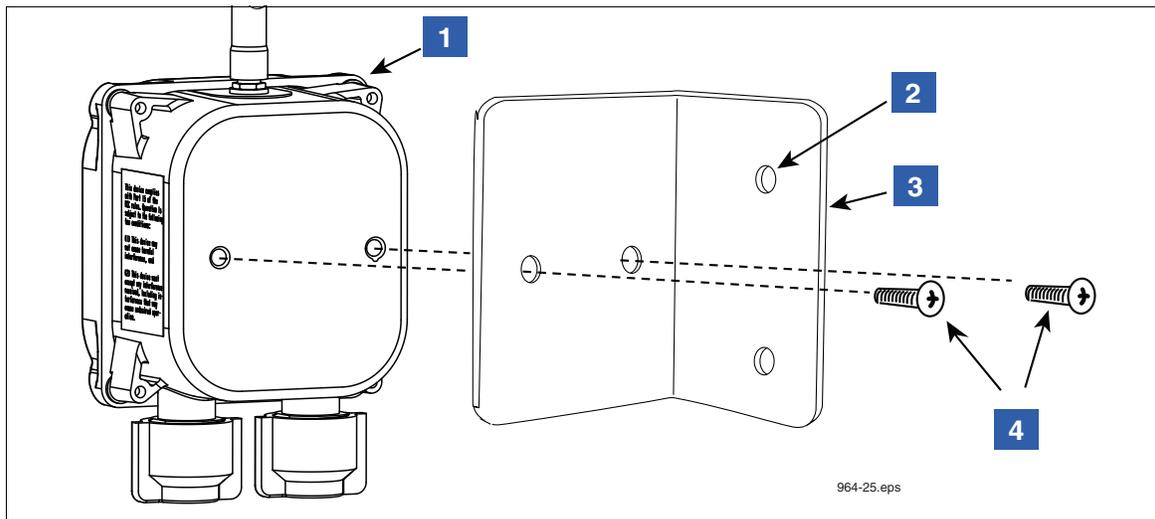

Figure 20. Attaching mounting bracket to Receiver or Repeater
1. One Receiver is required per site and it is mounted in the vertical position (antenna up) on the outer wall of the same building housing the TLS RF. The Receiver is attached to its mounting bracket with #10 x 1/2" taptite screws from its install kit (see Figure 20). The L-bracket is then mounted on the outer wall of the building using appropriate fasteners (customer supplied). If the Receiver will be exposed to the weather, attach the L-bracket to the mounting surface inside a weatherproof enclosure. This enclosure is not required when mounting the Receiver under a roof overhang and shielded from the weather.
LEGEND FOR NUMBERED BOXES IN Figure 20
2. The Repeater is attached to its mounting bracket with #10 x 1/2" taptite screws from its install kit (ref. Figure 20 on page 28). The L-bracket is then attached to the outer wall of the building using appropriate fasteners (customer supplied). If the Repeater will be exposed to the weather, attach the L-bracket to the mounting surface inside a weatherproof enclosure. This enclosure is not required when mounting the Repeater under a roof overhang and shielded from the weather.